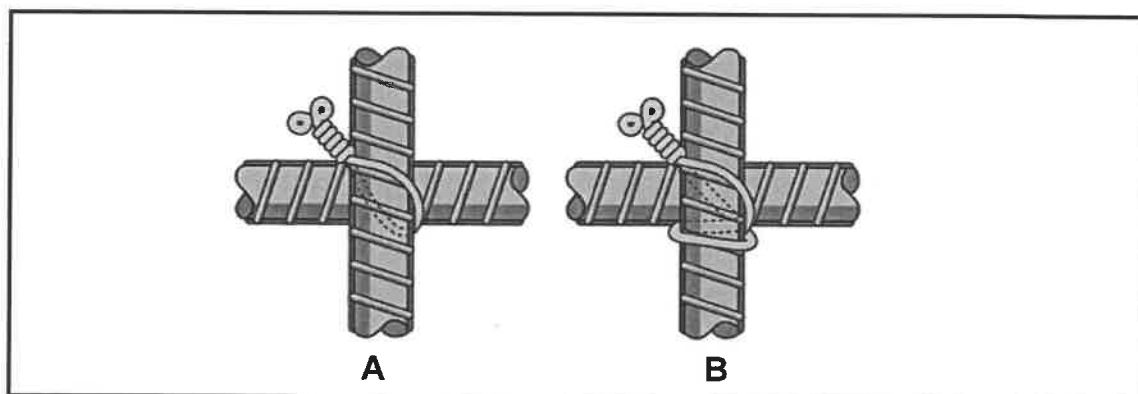

FIGURE 6.2
6.2 FIGURE 6.2 below shows joining methods of steel bars used in reinforced concrete.
6.2.2 Identify the type of bars used in FIGURE 6.2. (1)